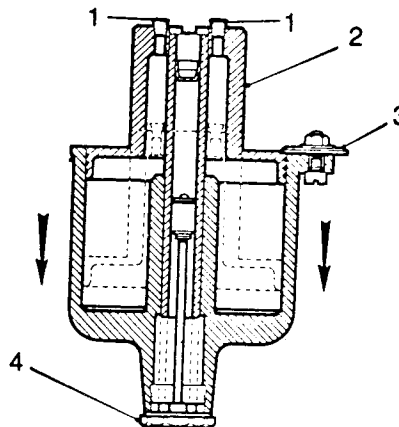

Fig C5.5
- (8) Refer to Fig C5.5. Temporarily plug the piston transfer holes (1).
- (9) Fit the piston (2) into the chamber without its spring.
- (10) Fit a nut and screw, with a large flat washer (3), under the nut, into one of the suction chambers fixing holes, positioning the washer so that it overlaps the chamber bore.
- (11) Fit the damper and washer (4).
- (12) Check that the piston is fully home in the chamber, invert the assembly to allow the chamber to fall away until the piston contacts the washer.
(13) Check the time taken for the chamber to fall the full extent of the piston travel. For carburettors of 38 mm to 47,6 mm the time taken should be 5 to 7 seconds.
(14) If the times are exceeded check the piston and chamber for presence of oil, foreign matter and damage. If after re-checking the time is still not within these limits, renew the suction chamber assembly.